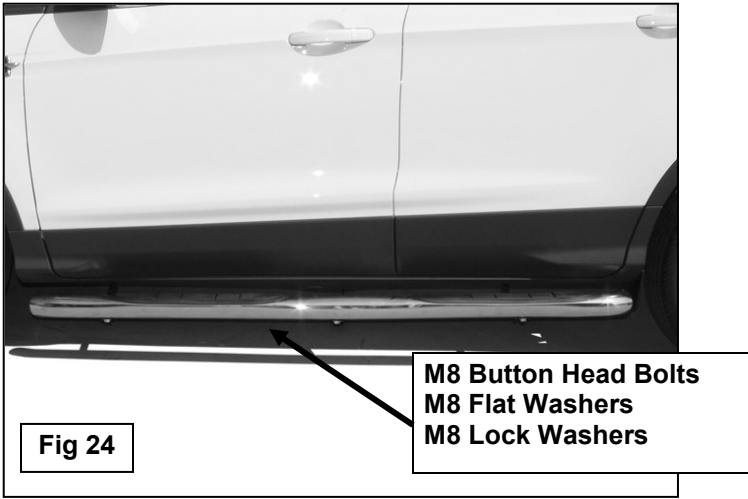

Fig 24
12. Carefully unwrap and select the driver Sidebar. Place the Sidebar in position on top of the (3) Brackets. NOTE: It may be necessary to loosen the Brackets slightly to line up the cradles with the threaded inserts in the Sidebars. Bolt the Sidebar to the Brackets with (6) M8 Hex Bolts, (6) M8 Lock Washers and (6) M8 flat washers, (Fig. 24).